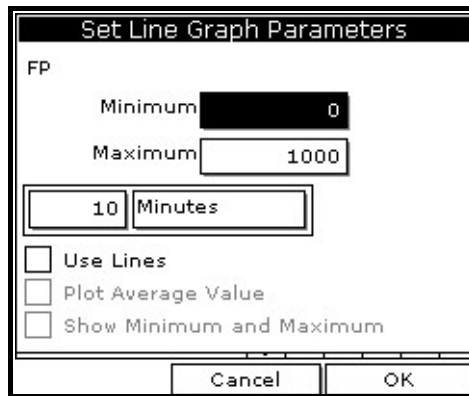

Figure 17: Line Graph Parameters Window
2. Use the arrow keys to scroll to Limits and press **[ENTER]**. A screen similar to Figure 17 appears